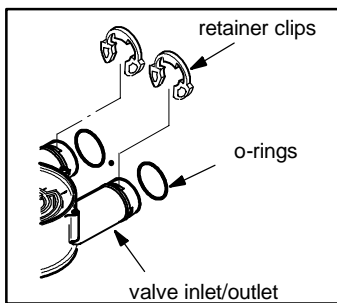

Figure 4
7. Carefully remove the large retainer clips on the softener inlet and outlet. Separate the water softener from the bypass valve. **Figure 4.**
22. Move softener back into place and reconnect bypass valve to the softener inlet and outlet. Carefully insert large retainer clips. **Figure 4.**